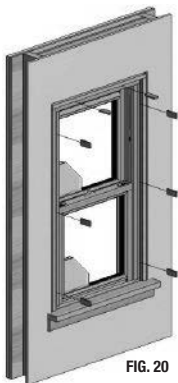

FIG. 20
- B) Appropriately shim the window to obtain a level and square window with uniform frame dimensions. (Fig. 20) **Note: Place a shim behind each installation screw hole and at the center on each side.**